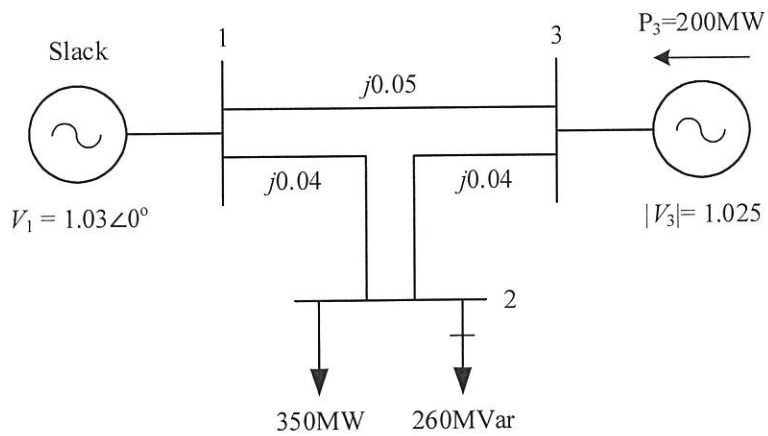
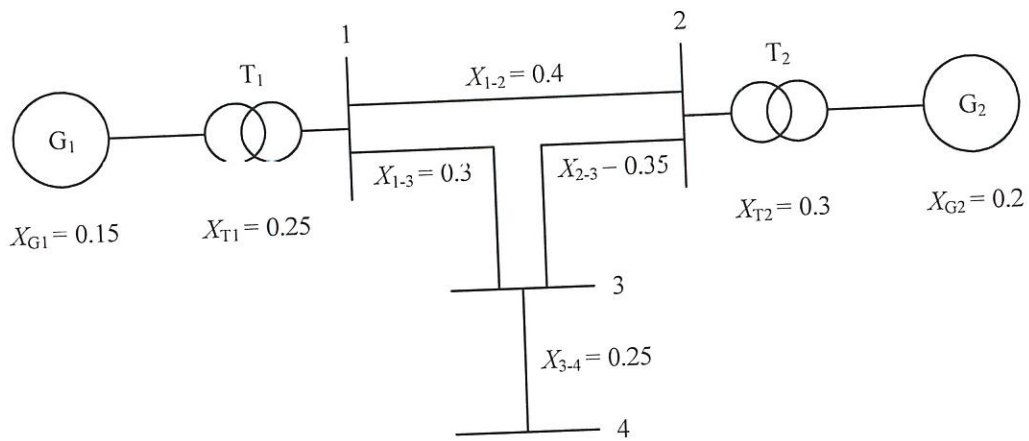
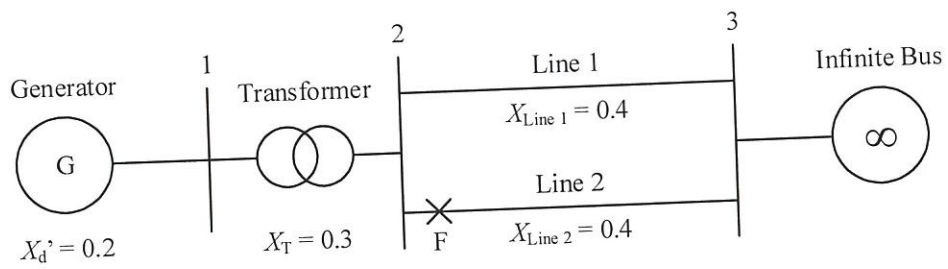

Figure Q2(b)
Figure Q4(b)
Figure Q5(b)
- (b) **Figure Q2(b)** illustrates the single-line diagram of a simple three-bus test system model. There are two generators connected to Bus 1, and Bus 3, respectively. Bus 1 is selected as the slack bus in this analysis. The line impedances are marked in pu on a 100MVA base. For simplification, line susceptances and line charging are neglected. Apply Gauss-Seidel method to determine the value of $V_2^{(1)}$ and $V_3^{(1)}$. Perform **ONE (1)** iteration only. (15 marks)
- Q3** (a) Identify **THREE (3)** factors that influence the operating cost of a thermal plant. (3 marks)
- (b) The fuel-cost function in MYR/h for **THREE (3)** thermal plants are given by:
- (b) A single-line diagram of a four-bus power system is shown in **Figure Q4(b)**. Each generator is represented by an electromotive force (emf) behind the transient reactance. All impedances are expressed in per unit on a common MVA base. All resistances and shunt capacitances are neglected. The generators operate on no-load at their rated voltage with their emf in phase. A solid three phase fault occurs at Bus 4.
- (ii) List **TWO (2)** major categories of power system stability. (2 marks)
- (b) A 60Hz synchronous generator with inertia constant $H = 5.6\text{MJ/MVA}$ is connected to an infinite bus through a purely reactive circuit as shown in **Figure Q5(b)**. The generator is delivering real power $P_3 = 0.85\text{pu}$ and $Q_3 = 0.081\text{pu}$ to the infinite bus at a voltage of $V_3 = 1.0\text{pu}$. A temporary three-phase fault occurs at the sending end of Line 2 at point F. When the fault is cleared, both lines remain following the disturbance. Propose the stability limit of the system by determining the critical clearing angle (δ_c) and the critical fault clearing time (t_c) for the given disturbance. (16 marks)